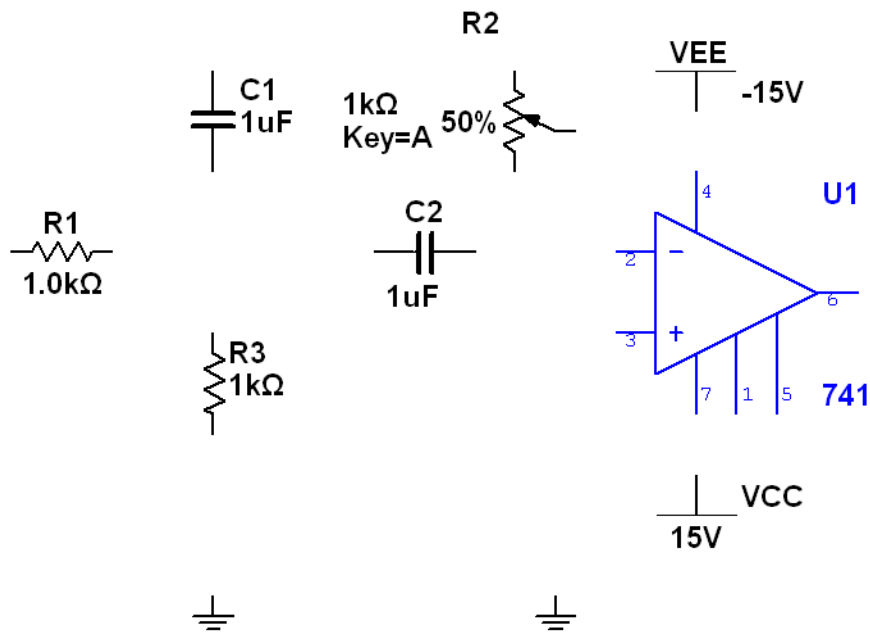

Figure E1-5. Power Source Components Toolbar (Direct Placement)
- Your schematic should look like the diagram in Figure E1-5.